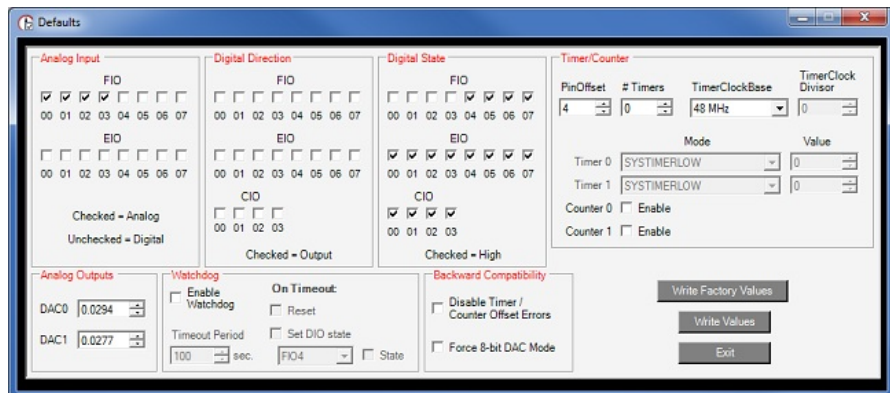

Figure 1-2. LJControlPanel U3 Configure Defaults Window
- Config Defaults: Opens the window shown in Figure 1-2.
This option provides control over the condition of the device at power-up or reset. Figure 1-2 shows a U3-HV with the factory default power-up configuration, which means AIN0-AIN3 set to analog input, FIO4 to CIO3 set to digital input, analog outputs set to minimum voltage (near 0), and timers/counters/watchdog disabled.